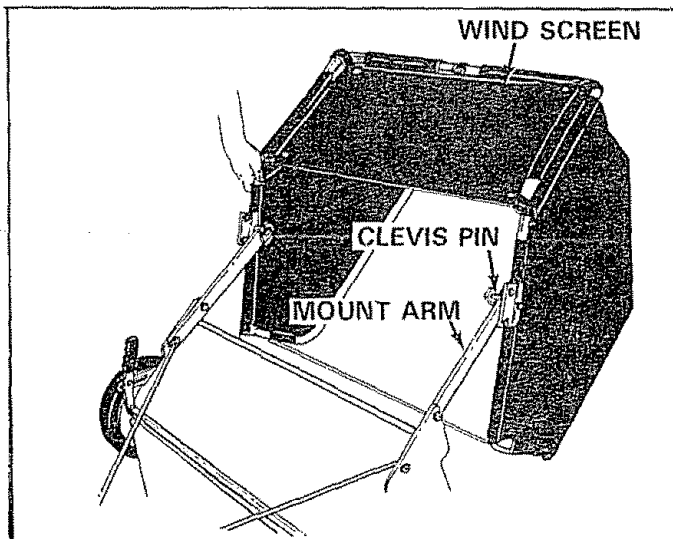

FIGURE 26
18. To assemble the hopper bag frame to the sweeper, simply hook the clevis pins into the notches in mount arms. Bag retainers must pivot freely to lock in position. See figure 26.